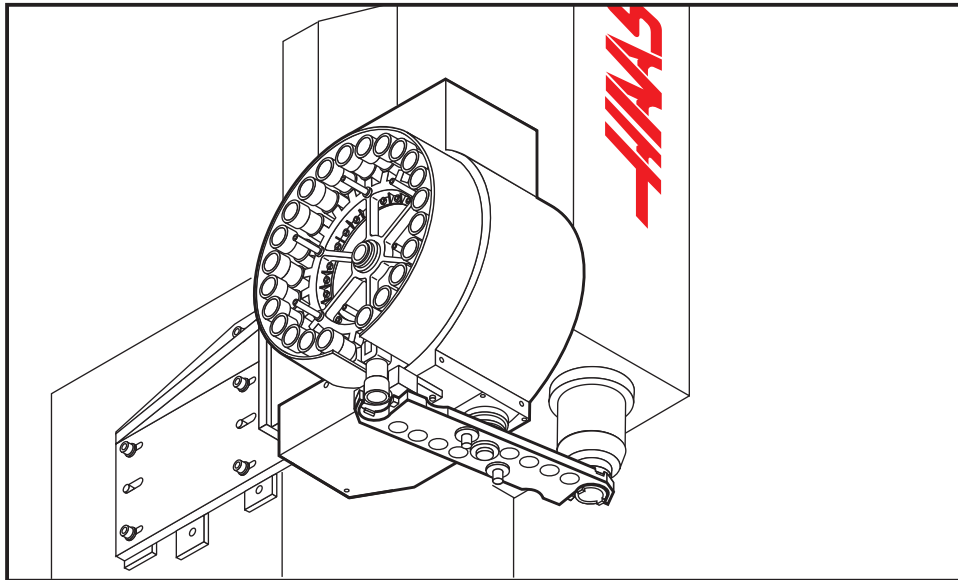

Figure 3.12-7 Double Arm Alignment
3. Push the ARROW DOWN button, to activate the tool pocket down (insure proper tool pocket operation). Refer to figure 3.12-7.